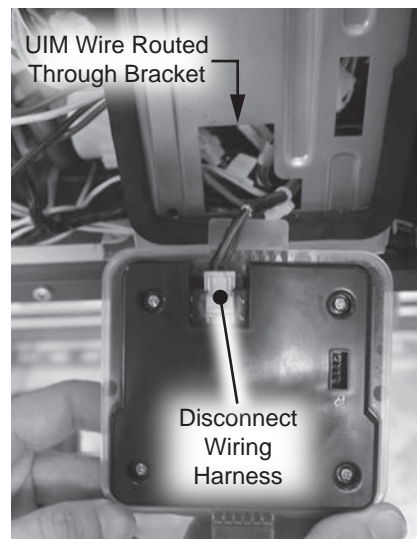

Figure 14 - Disconnecting UIM
6 Disconnect wire harness from UIM. See Figure 14.
- 12 Locate the new wire harness provided in the kit. Connect the wire harness to the PCB and route the wiring behind the gas valve and through the bottom opening of the UIM bracket. See Figure 14 for reference.